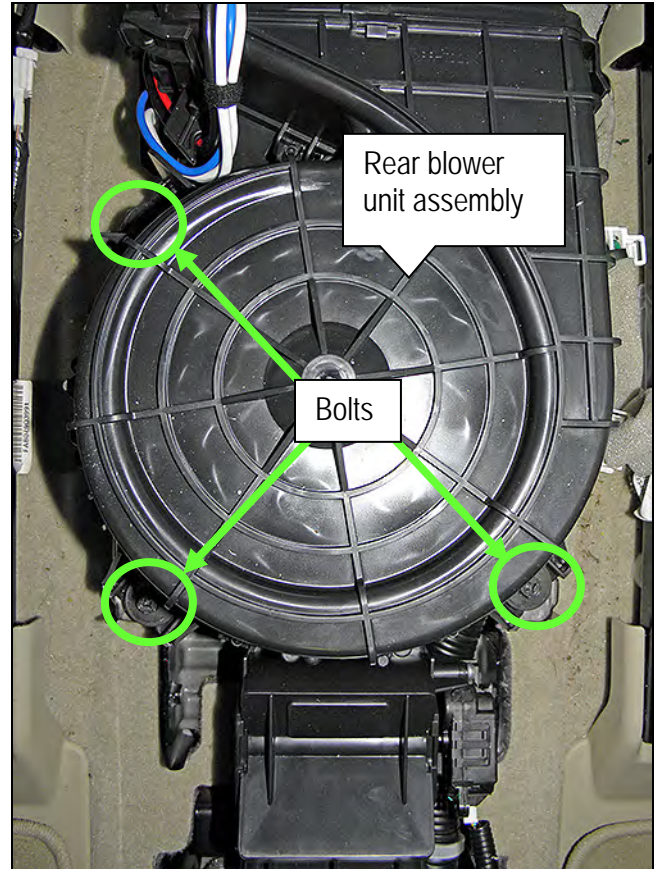

Figure 44B
27. Unbolt the 3 bolts that retain the rear blower unit assembly (Figure 44B) and then move it to gain access to the "Telematics Control Unit" (TCU).